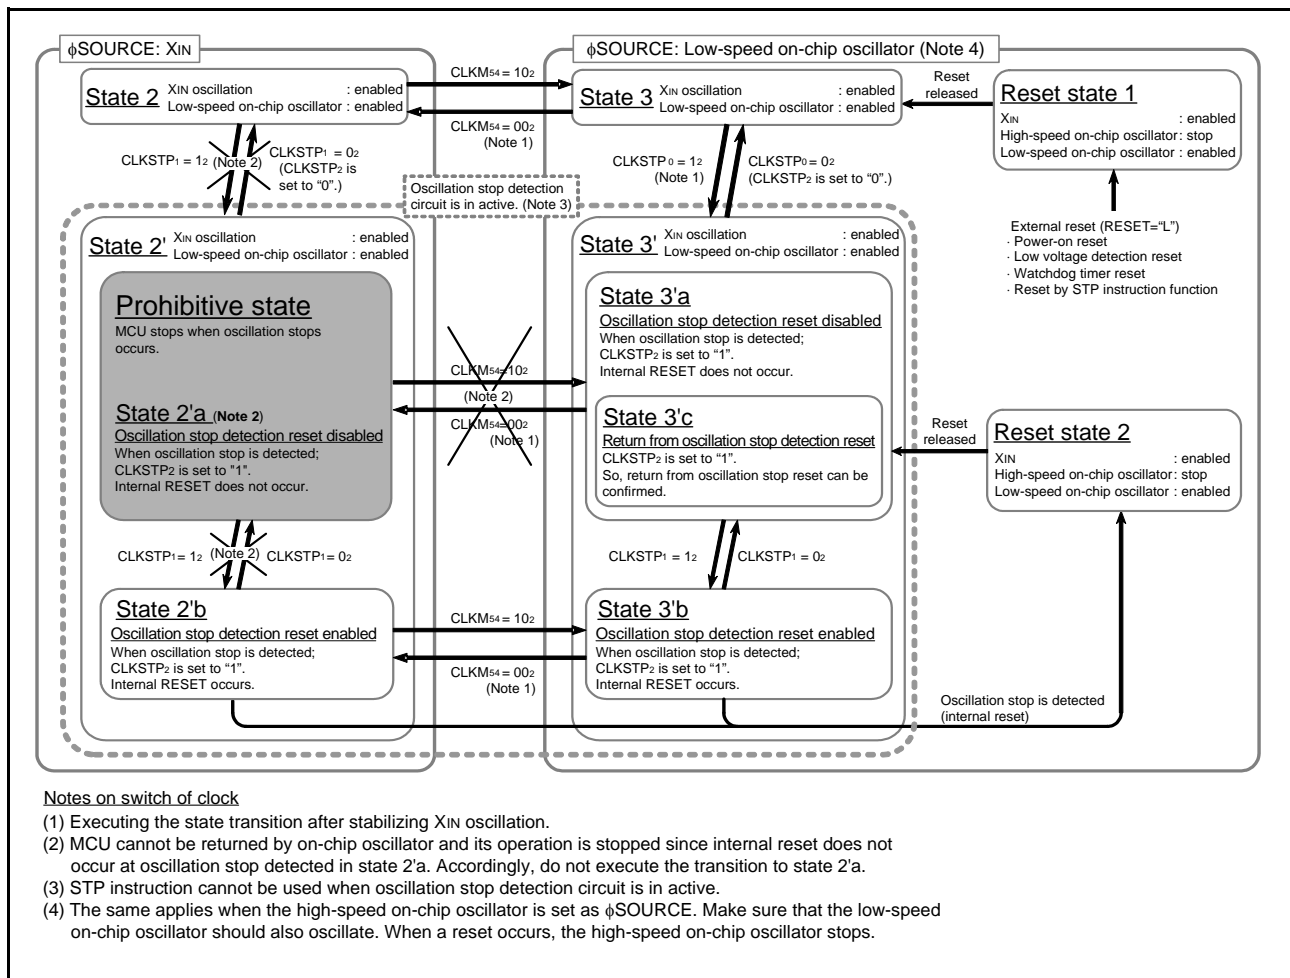

Fig 68. State transition of oscillation stop detection circuit
- (1) Do not execute the transition to “state 2’a” shown in Figure 68 State transition of oscillation stop detection circuit. In this state, no reset is triggered and the MCU is stopped even when the XIN oscillation stops.
- (2) After an oscillation stop detection reset, if this reset is enabled while bits XIN oscillation stop detection function active and oscillation stop detection status are retained, a reset is triggered again.
- (3) The oscillation stop detection status bit is initialized under the following conditions:
- (4) While the oscillation stop detection function is in active, the oscillation stop detection status bit may set to 1 when the watchdog timer underflows or by a reset when the STP instruction is executed with the STP instruction function selection bit set to 1.